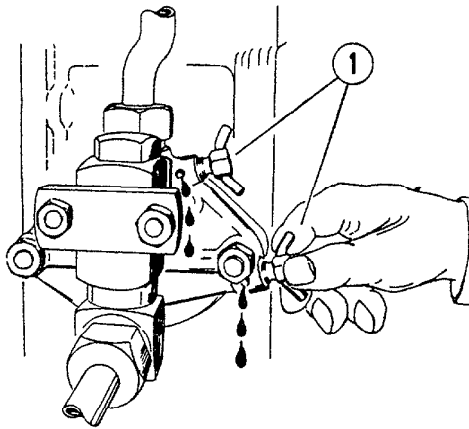

Fig. 33
1. In cold weather — or when there is a risk of frost — the water must be drained off using the two drain cocks (1) on the water pump (fig. 33).
3. Remember that the gate valve (2) must always be closed before the drain cocks are opened or the impeller pump body cover is loosened.